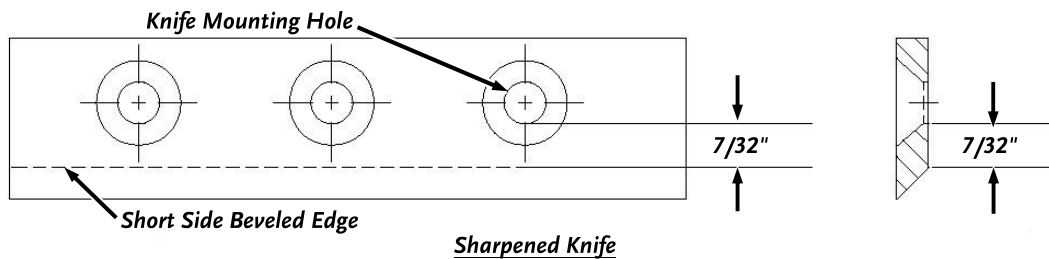

Figure 17
- Once this measurement is below  $7/32$ " (**Figure 17**), or if you are unable to remove dents or gouges with these guidelines, replace the Knife.